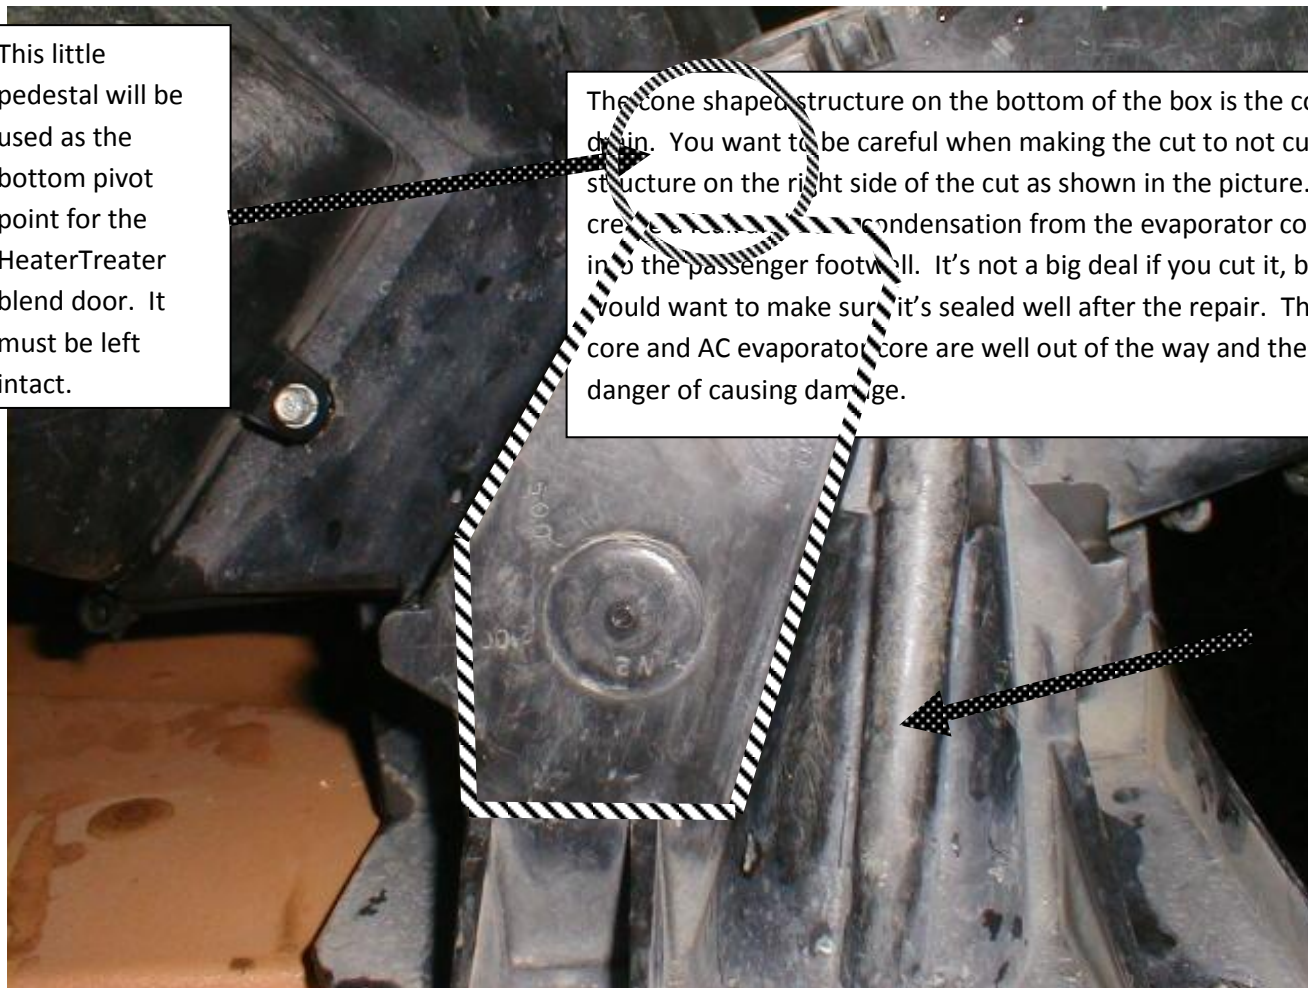

Fig. 3
6. **Use the pattern in Fig. 3 to cut into the bottom of the heater box with the enclosed rotary saw bit and a rotary tool. There is not much room to work, so you will need a short bodied rotary tool or a flexible extension attachment.**